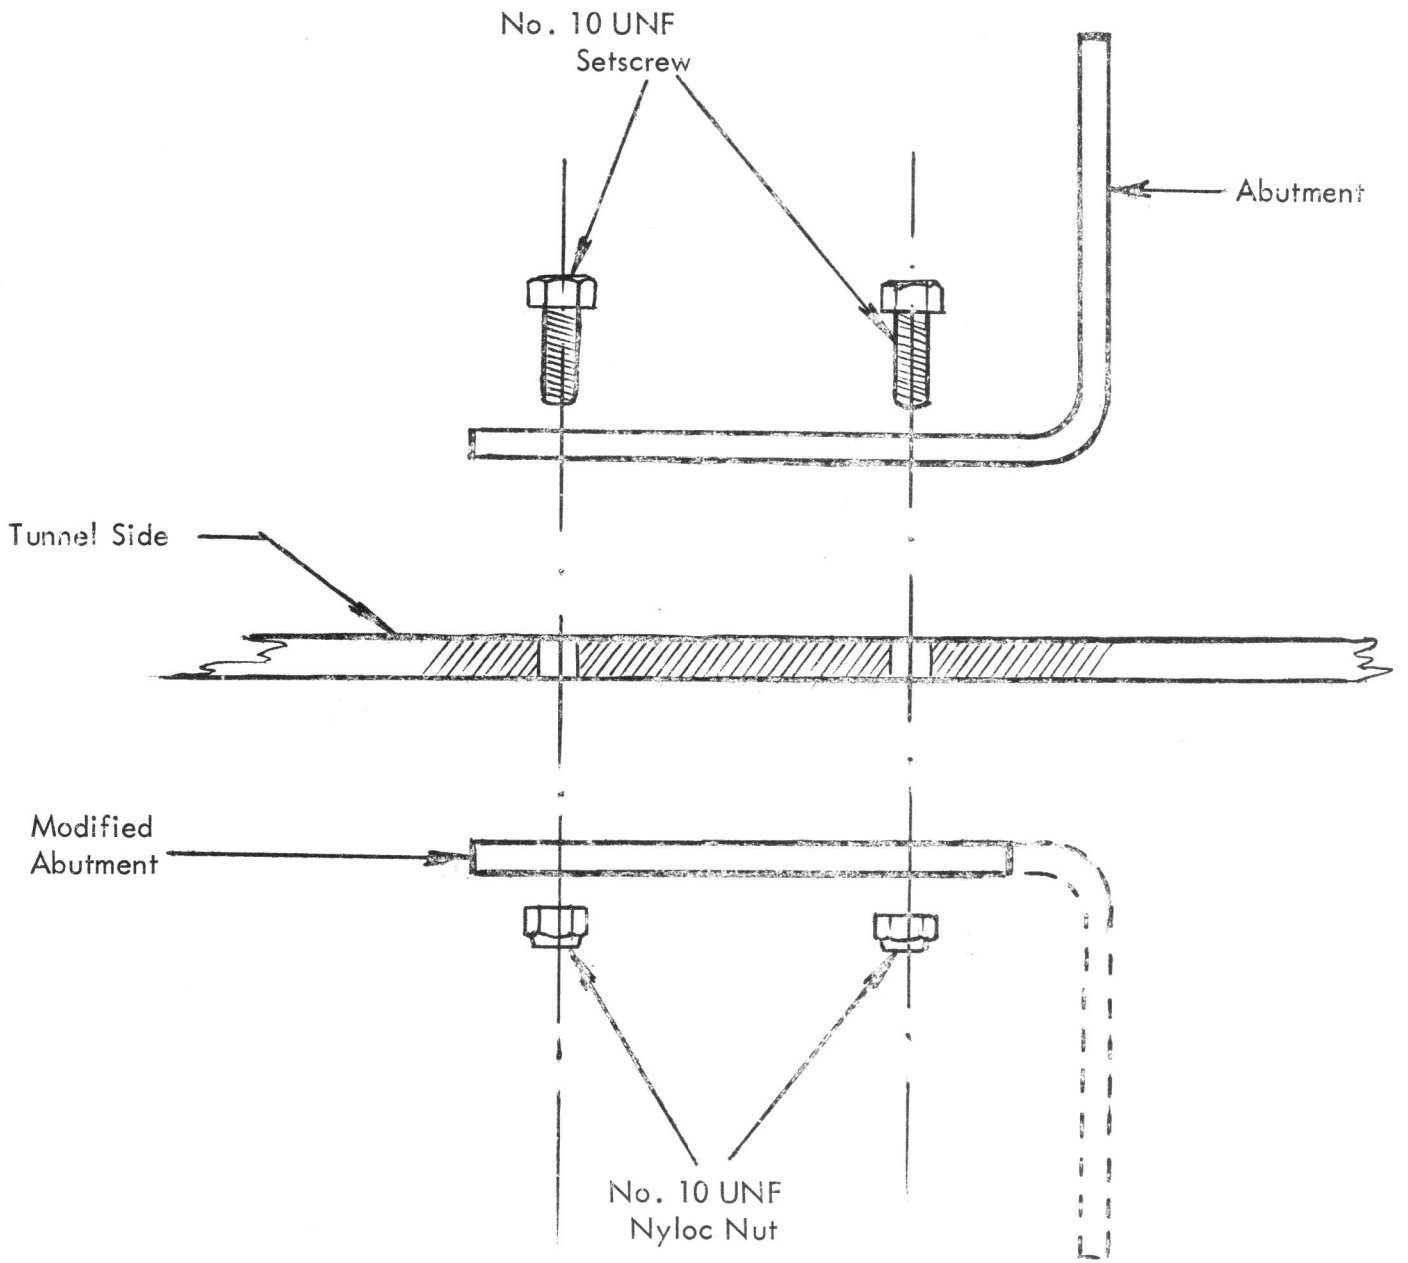

Fig. 1.
4. Cut a second bracket as shown in Fig.1.
6. Refit the abutment as shown in Fig.1 using two No.10 UNF x .625 in. (15.875 mm.) setscrews and No. 10 UNF NYLOC Nuts, fixing the nuts from under the car.